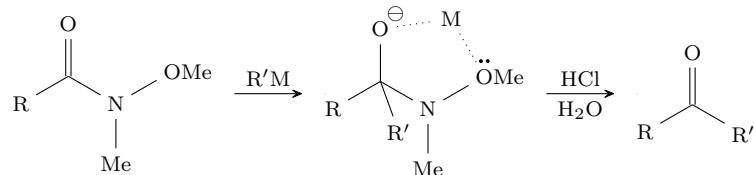

Figure 4.54: Weinreb ketone synthesis.
- Weinreb amides are another useful way of synthesizing ketones (Figure 4.54).